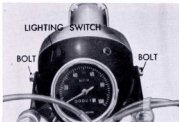

Fig. 17
3. Loosen the head light bracket bolts, adjust the head light angle by hand and retighten the bolts to adjust light focus. (Fig. 17)